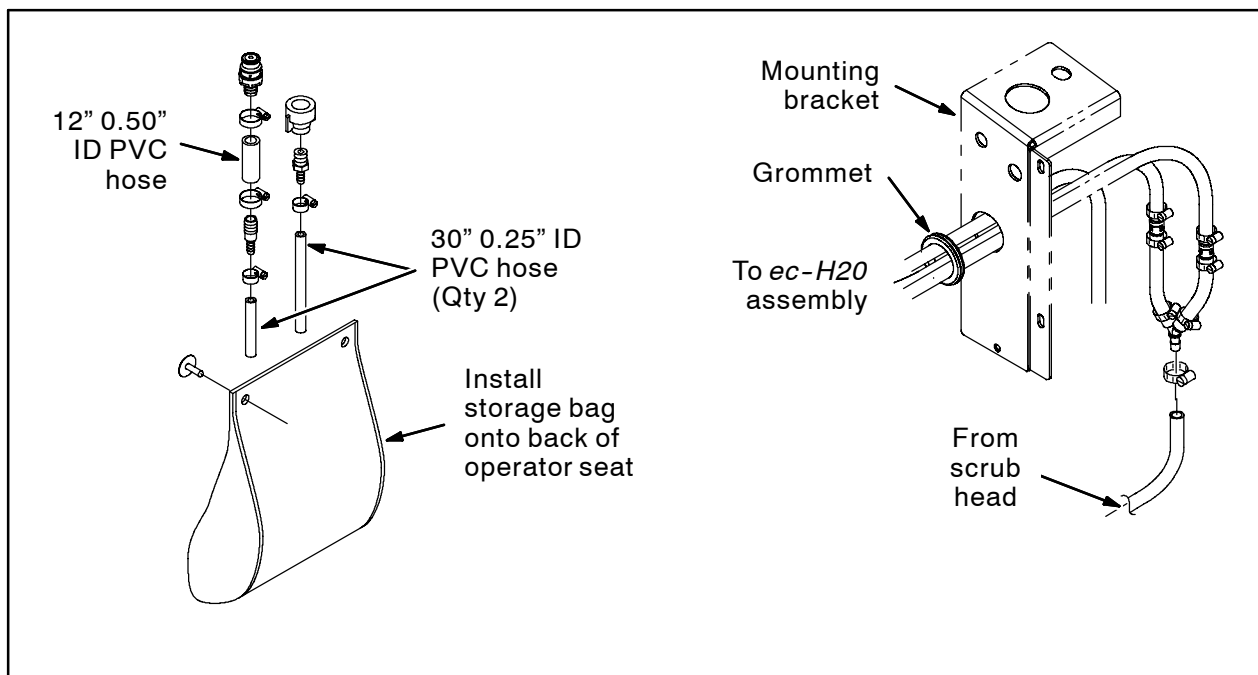

FIG. 13
60. Install the grommet into the mounting bracket. Refer to Fig. 13.
61. Reinstall the mounting bracket into the operator compartment. Refer to Fig. 13.
64. Install the storage bag onto the back of the operator seat. Refer to Fig. 13.
65. Assemble the *ec-H20* flush hose assemblies. Refer to Fig. 13.